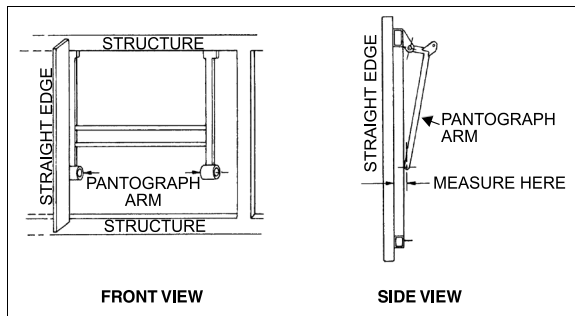
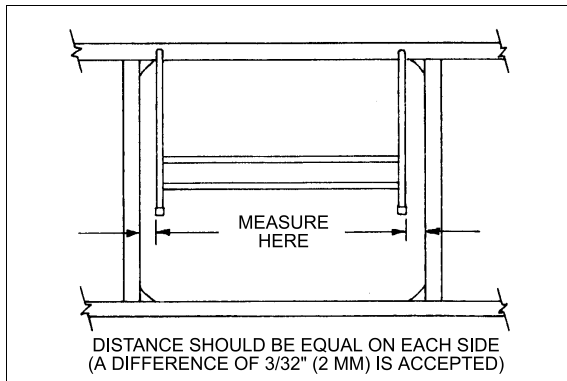

FIGURE 59: PANTOGRAPH DOOR ADJUSTMENT 18062
FIGURE 60: PANTOGRAPH DOOR ADJUSTMENT 18063
Measure distance between a pantograph arm end and a straight edge resting on structure. Repeat procedure for the other arm. The distance on each side should be equal. If not, bend appropriate arm until desired measure is obtained (Figure 59 & Figure 60).
5. When the door is straight, remove the 2x4's and check door operation and fit. A difference of 3/32" (2mm) between both sides is accepted (Figure 60).